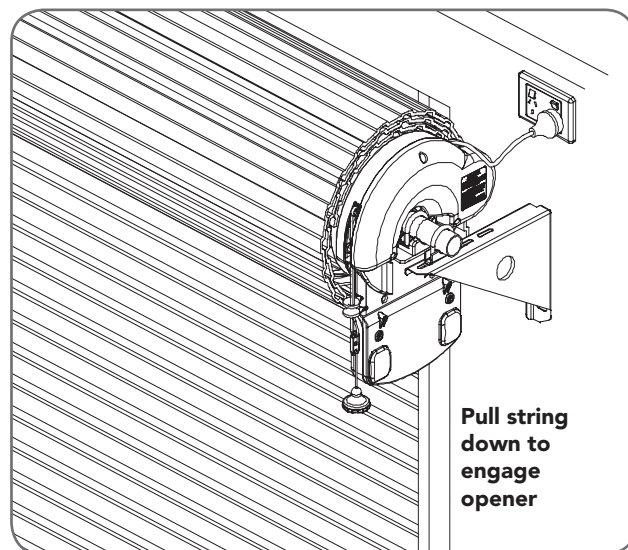

Fig.6.7.1
- Engage the opener by pulling down on the manual release string until a click sounds (**Fig.6.7.1**).